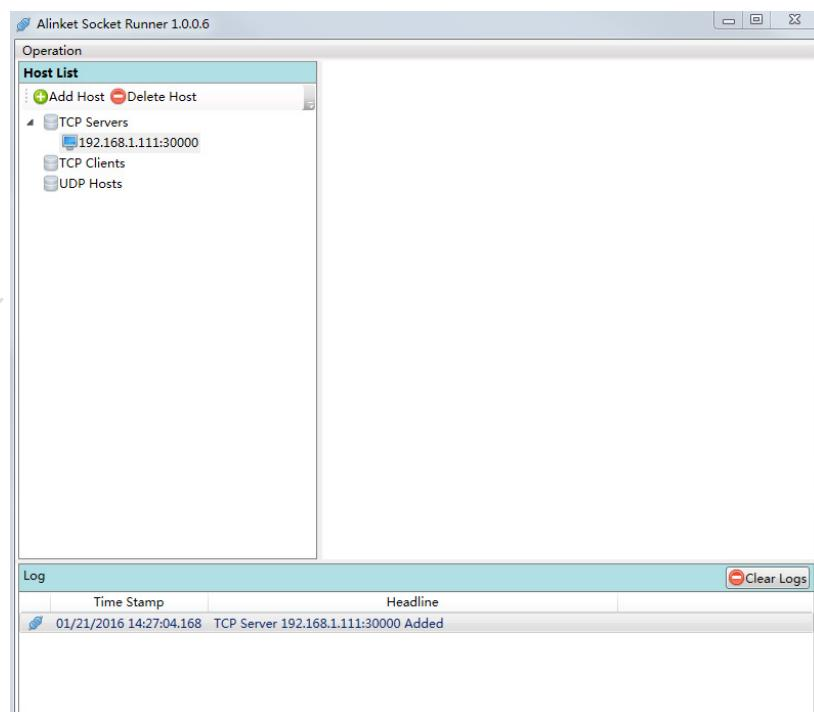

Figure 15 TCP/UDP Tool (Server)
6. Open “Alinket Socket Runner”. Create server and fill in the port number. Shown as Figure 15.